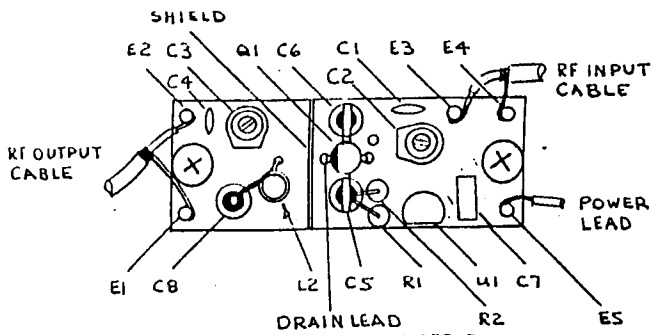

Figure 2. Top View, LNW-432 Preamp
Connect the input and output terminals in the receive signal path with miniature coax, such as RG-174/u, as shown in fig 2. Be sure to keep the stripped pigtails as short as possible to maintain a 50 ohm path. Pin connections can be made either by wrapping leads around pins and soldering or by filling insides of pins with solder and inserting leads while solder is molten. Don't connect the preamp in the transmit signal path.
d. Figure 2 shows the placement of Q1 on the board and identifies the drain lead. Pick up the transistor and orient as shown with lettering up. Gently bend drain lead and gate-1 lead (the opposite lead) down at a 90 degree angle so those leads can go into the pc board pads.
i. Output coil L2 is 3-1/2 turns of #22 bus wire wound on 7/64" inside diameter. The shank of a drill bit makes a good tool for accurate coil winding. The coil turns should be barely spaced apart. The coil is mounted vertically, as shown in fig 2, with the bottom lead soldered to a pc board pad, and the bottom of the coil spaced just a little away from the ground plane. Wrap the other lead around the lower part of the pin on ft cap C8 and solder. Trim off extra length of ft cap.
Figure 2 shows the placement of Q1 on the board and identifies the drain lead. Pick up the transistor and orient it as shown in fig. 2 with lettering up. Gently bend the drain lead and the gate-1 lead (which is the opposite lead) down at a 90 degree angle so those leads can go into the pads in the board.